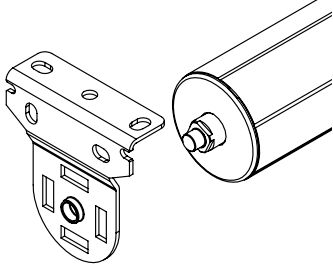

Figure 11A. End Pin Bracket
Step 8. To install, insert the heavy duty end pin side of the tube into the center hole of the wall bracket shown in **Figure 11A**. While putting pressure on the spring pin, install the motor end onto the other bracket. The spring pressure will allow the tabs on the motor end to seat into the bracket as shown in **Figure 11B**.